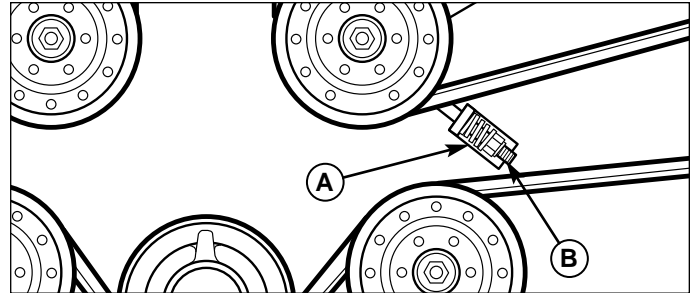

Figure 38. Mower PTO Belt
3. Loosen the spring compression nut (B, Figure 38) to release the belt tension.
6. Install the drive belt on the gearbox pulley, the spindle pulleys and idler pulleys. Tighten the spring compression nut (B, Figure 38) until the belt tension spring (A, Figure 38) is compressed to 1-5/8" (4,12cm) long.